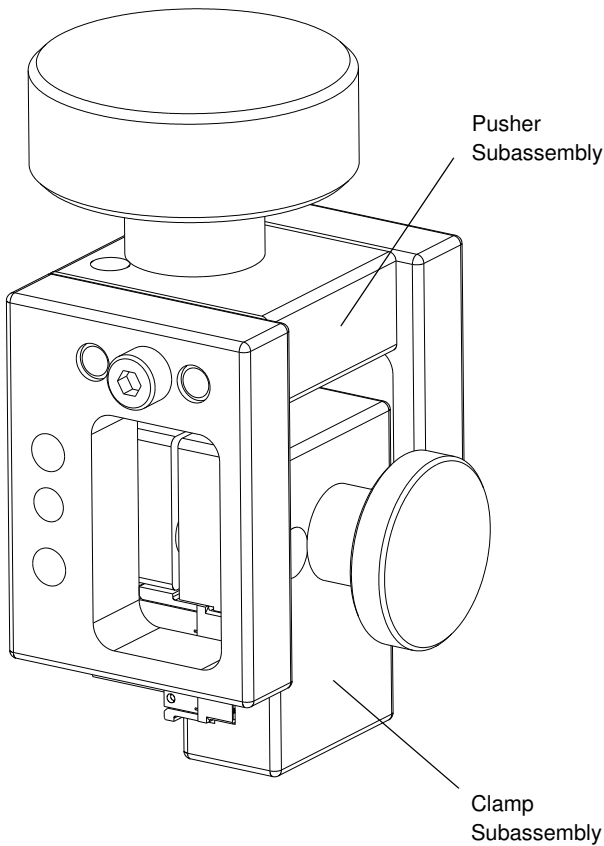

Figure 5
4. Place the pusher subassembly over the clamp subassembly. (Figure 5).